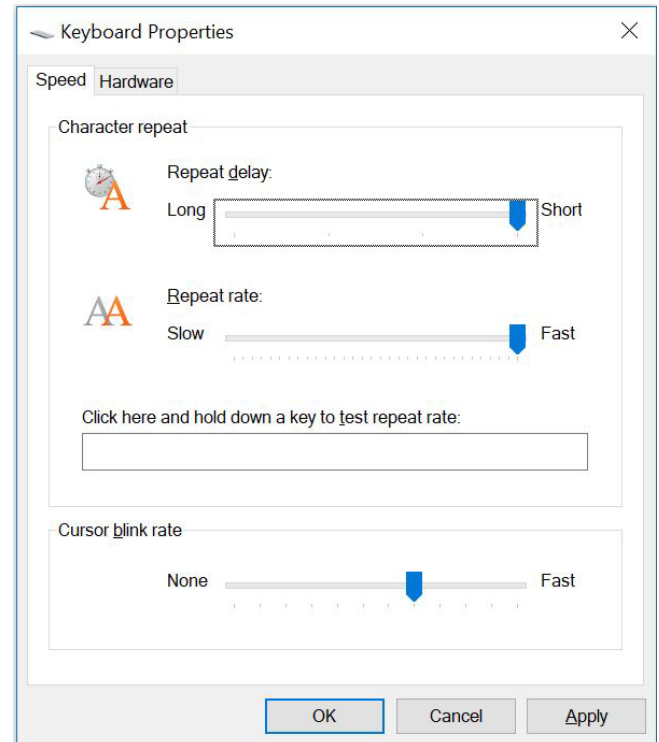

Figure 2: Repeat delay setting in *Keyboard Properties*
2. Click on the *Speed* tab (see Figure 2).